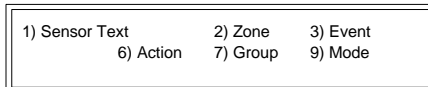

Figure 49: Device Information Menu
- Changes are first made by pressing the **Change** key. If only the device text can be changed, the display will jump straight to the location text (see *Configure Peripheral Device Text*, page 21). However, if the device can have other attributes changed, these options will be presented in menu form. See Figure 49.